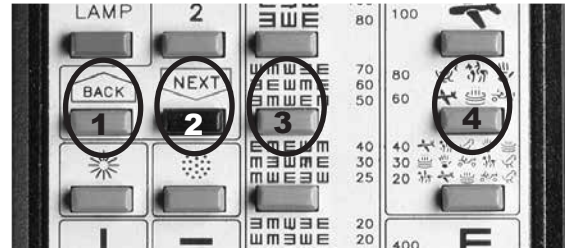

Figure 7 - Corresponding Buttons
2. At the same time, press key "1" and "3" on the remote control. Refer to Figure 7.
The AP250's masking options allow the operator to isolate horizontal lines, vertical lines and individual charts. See Figure 7 below for functions of masking buttons.